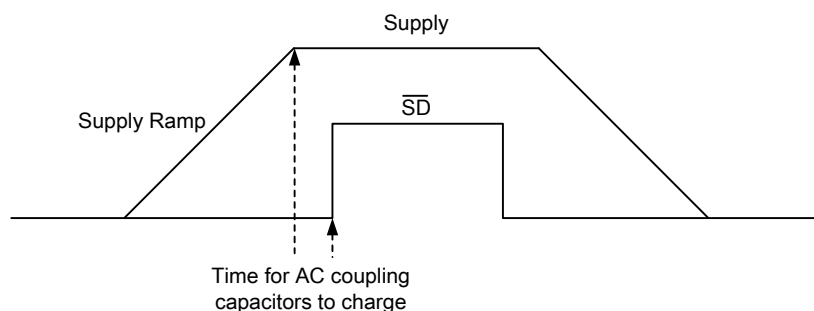

Figure 1. Power-Up Sequence
Pop-free power-up is ensured by keeping the \overline{SD} (EN) (shutdown pin) low during power supply ramp up and down. The EN pin should be kept low until the input AC coupling capacitors are fully charged before asserting the EN pin high. This way proper precharge of the AC coupling is performed, and pop-free power-up is achieved. Figure 1 illustrates the preferred sequence.